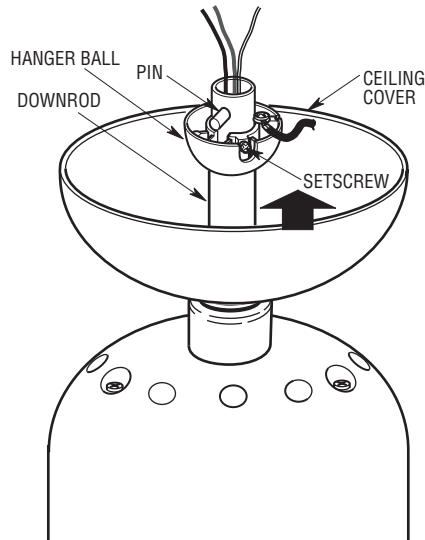

Figure 10
- 17. Reinstall the hanger ball (Figure 10) on the downrod as follows. Route the motor leads through the downrod. Position the pin through the two holes in the downrod and align the ball so the pin is captured in the groove in the top of the hanger ball. Pull the hanger ball up tight against the pin and securely tighten the setscrew in the hanger ball. A loose setscrew could create fan wobble.